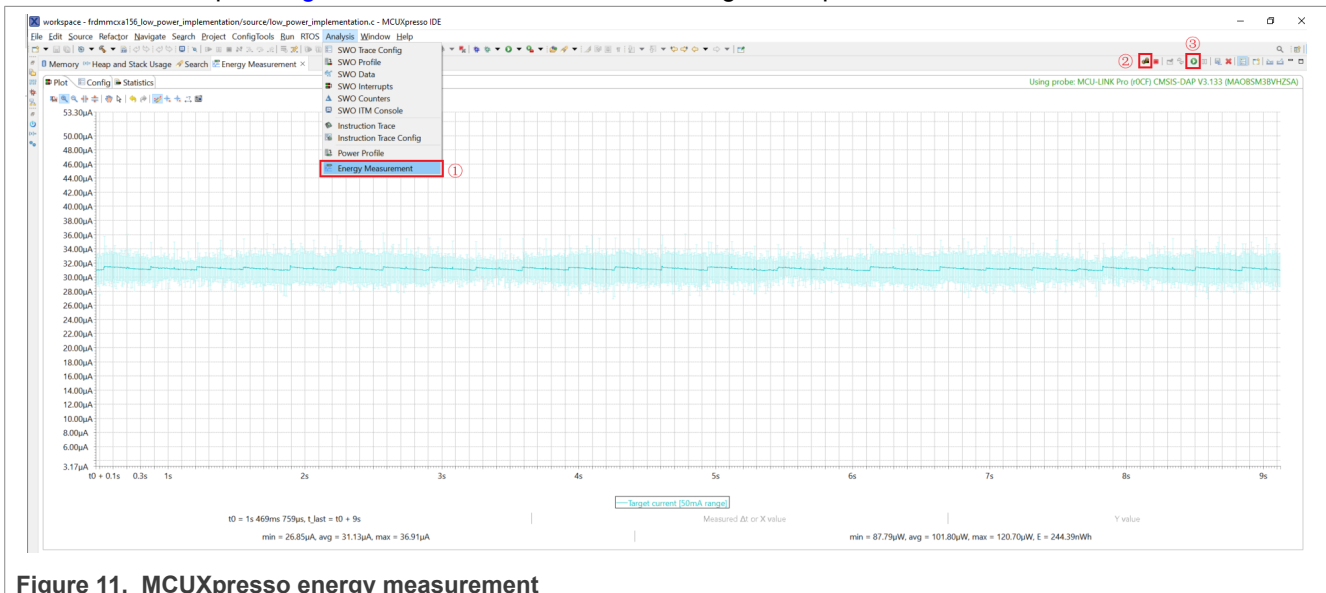

Figure 11. MCUXpresso energy measurement
2. Follow the steps in Figure 11 to measure the current using MCUXpresso IDE.